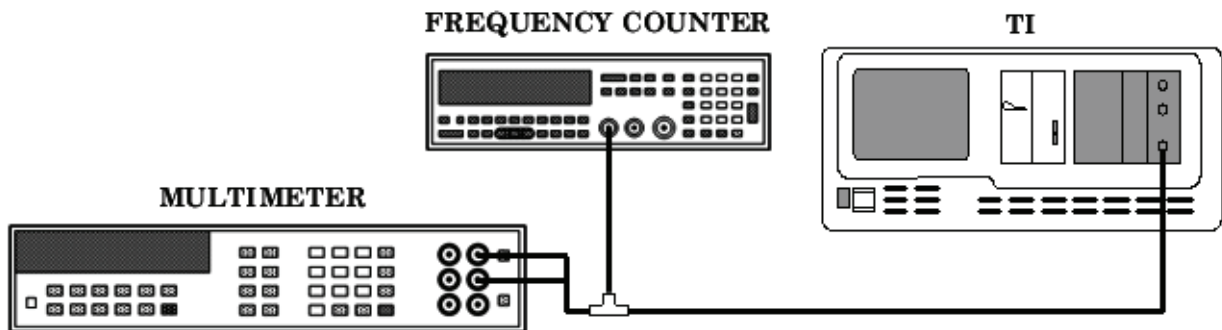

Figure 2. Transmitter flatness accuracy - equipment setup.
- (1) Connect equipment with a 600 Ω termination to output of TI as shown in figure 2.
- (2) Press **Run/Halt** and **Pg Up** keys to view **SWEEP CONTROL** menu.
- (3) Change **SWEEP** to **CONT** and press **Pg Dn** key.
- (4) Press **Run/Halt** key. As TI sweeps from 20 to 200 Hz, multimeter display will remain between **0.73127** and **0.82049 V ac**.
- (5) Press **Run/Halt** and **Pg Up** keys to view **SWEEP CONTROL** menu.
- (6) Change **LO FREQ** to **199 Hz**, **HI FREQ** to **4000 Hz**, and **FREQ INCR** to **50 Hz**.
- (7) Press **Pg Dn** and **Run/Halt** keys. As TI sweeps from **199 to 4000 Hz**, multimeter display will remain between **0.75697** and **0.79264 V ac**.